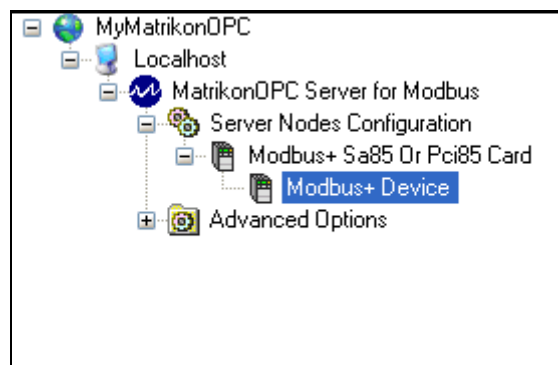

Figure 23 - New Modbus+ Device Object
6. Click on the **Create** button. The new item is created and appears as a child of the **Modbus+ SA85 or PCI85 Card** node in the navigation pane as shown in Figure 23.